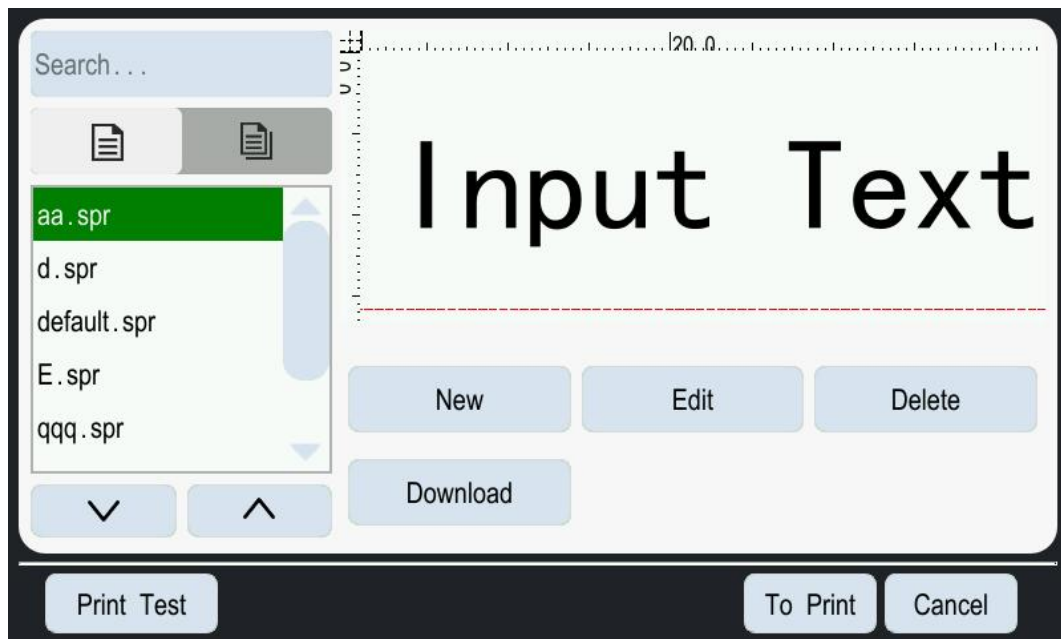

Figure 5-3 Load file interface
1. Click the button on  the main interface, and the system enters the file loading interface as shown in Figure 5-3.